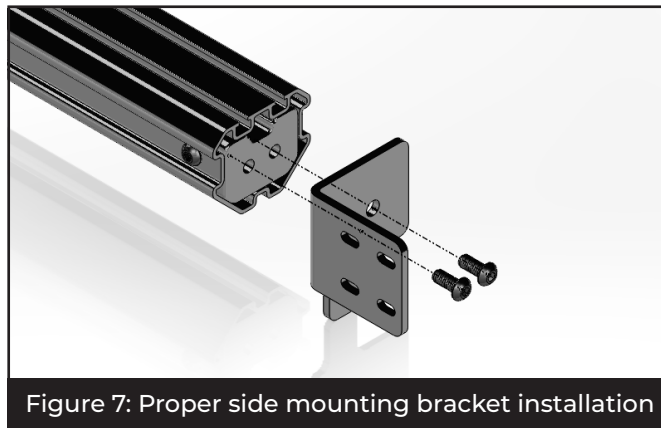
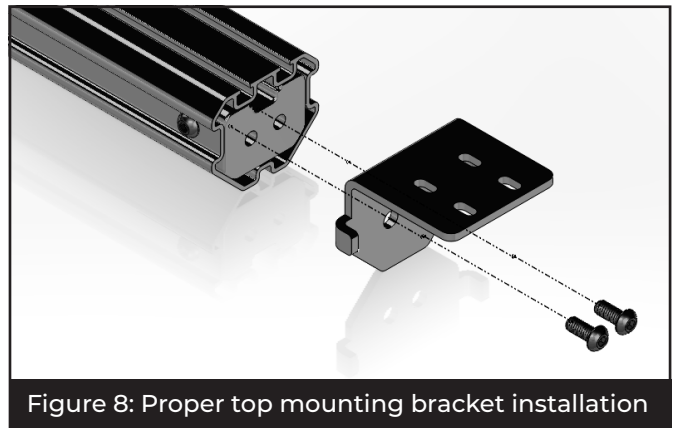

Figure 7: Proper side mounting bracket installation
Figure 8: Proper top mounting bracket installation
**12** Locate the rail mounting brackets for the rack. Position the rail mounting brackets as shown in Figures 7 and 8. Figure 7 shows the correct setup for the brackets that mount on the side of the hoops, and Figure 8 shows the correct setup for brackets that mount on the top of the hoops.